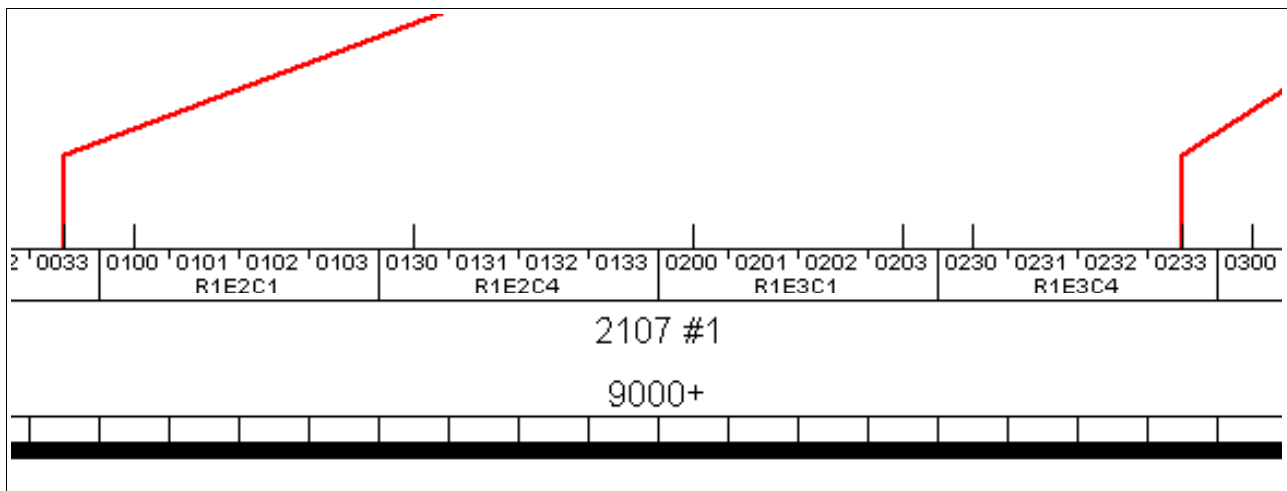

Figure 6-23 HCM DASD switched connections
26. Click **OK** to return to the main HCM display and observe the new connections into interfaces 0033 and 0233. Refer Figure 6-23.